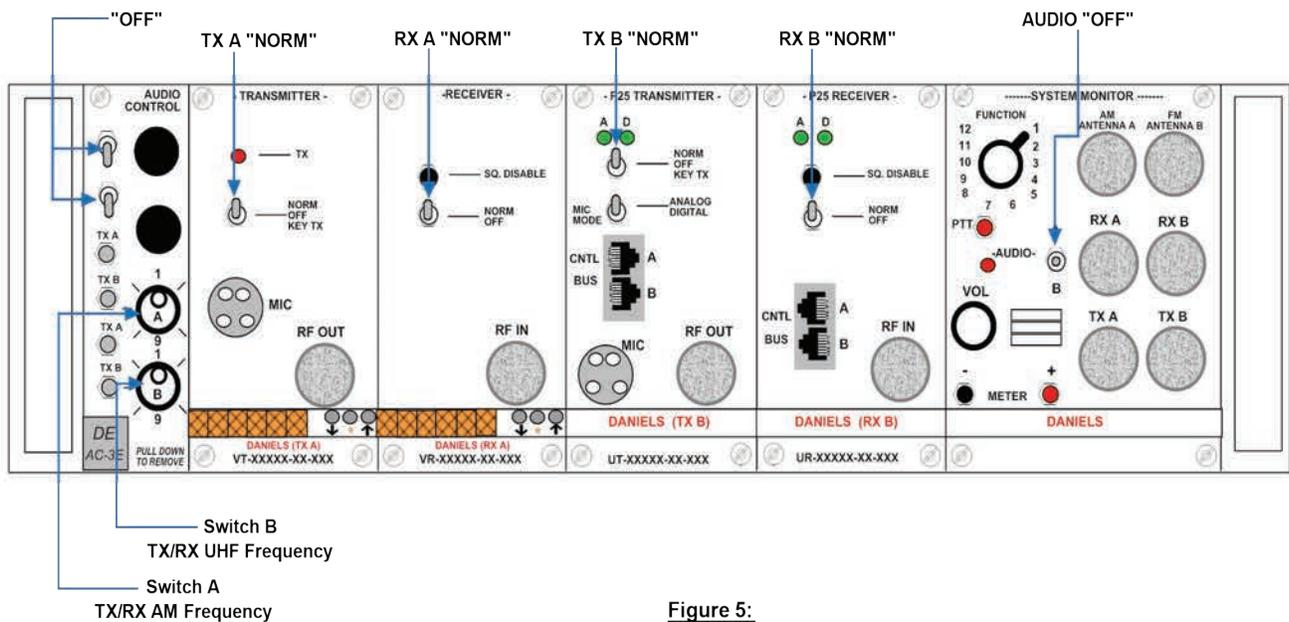

Figure 5:
9. Select the authorized assigned **FM UHF Link frequency** for both the **TX B** and **RX B** using the 16-position rotary **Switch B** (bottom rotary switch) on the **Audio Control Module**. *(See Figure 5)*